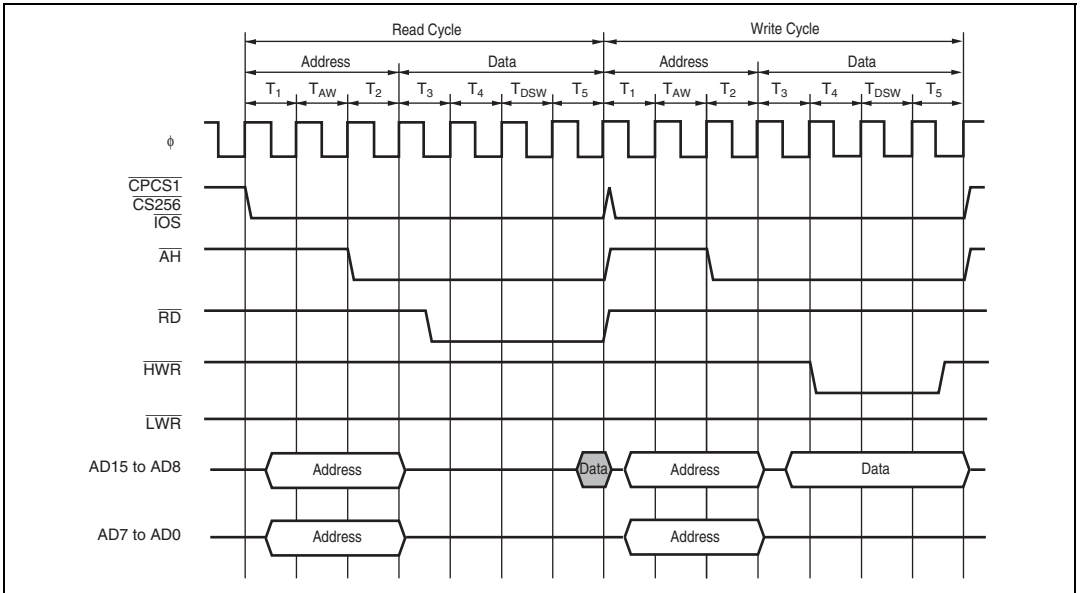

Figure 6.22 Bus Timing for 16-Bit, 3-State Access Space (1) (Even Byte Access)
(4) 16-Bit, 3-State Data Access Space: Figures 6.22 to 6.24 show bus timings for a 16-bit, 3-state access space. When a 16-bit access space is accessed, the upper half (AD15 to AD8) of the data bus is used for even addresses, and the lower half (AD7 to AD0) for odd addresses. Wait states can be inserted.